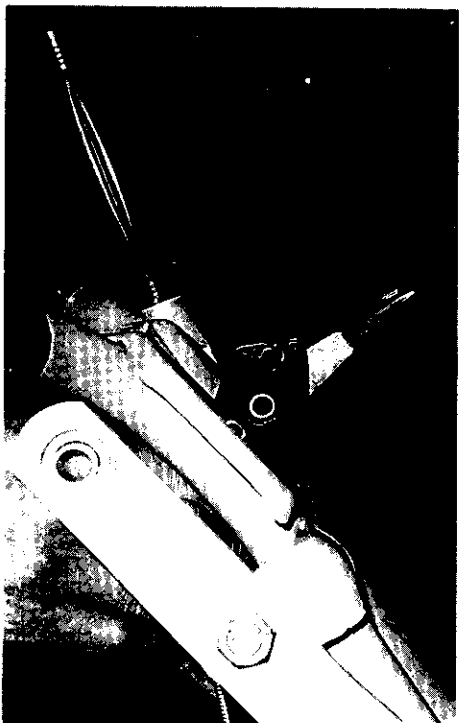

FIGURE 10
2. See Fig. 10: Push entire knob and control body through the panel slot from the back as shown.